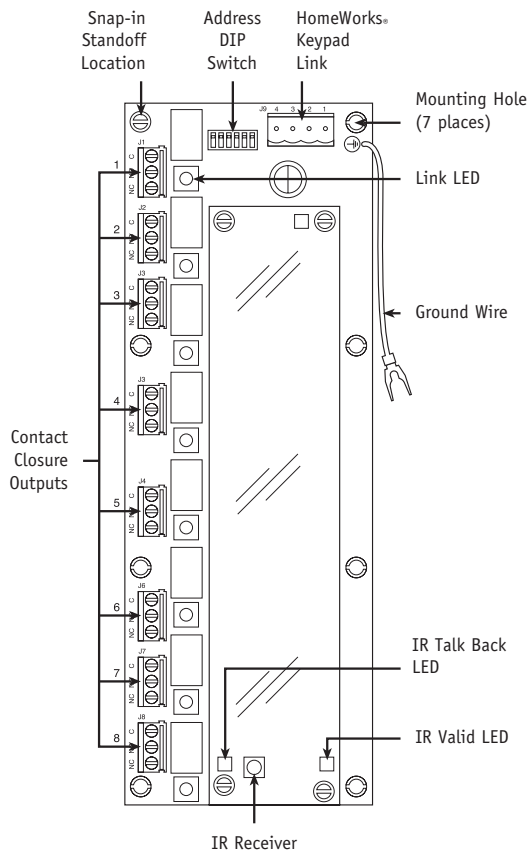

Figure 2 – HWI-CCO-8 Parts Identification
IR Receiver	Are compatible with these Lutron IR transmitters only: SP-HT-WH, SPS-FSIT-RP, SPS-4IT-RP, GRX-IT-WH and GRX-8IT-WH. An IR flasher can be mounted directly to the clear plastic shield over the IR receiver. See Fig. 2, pg. 148. Also see Appendix C: Infrared (IR) Integration.